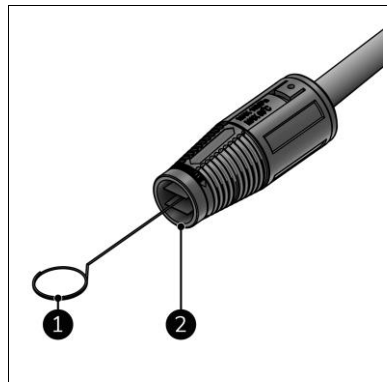

Figure 24
3. Remove the nozzle (Figure 24, pos. 2) from the jet gun (Figure 6, pos. 7).
4. Clean the nozzle with the cleaning pin (Figure 24, pos. 1).